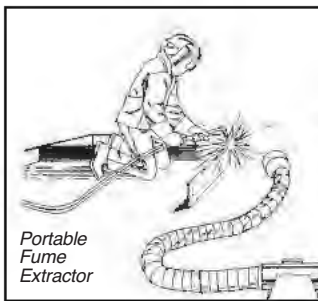

Figure 6
- 1) portable fume extractor with flexible ducting (Figure 6)